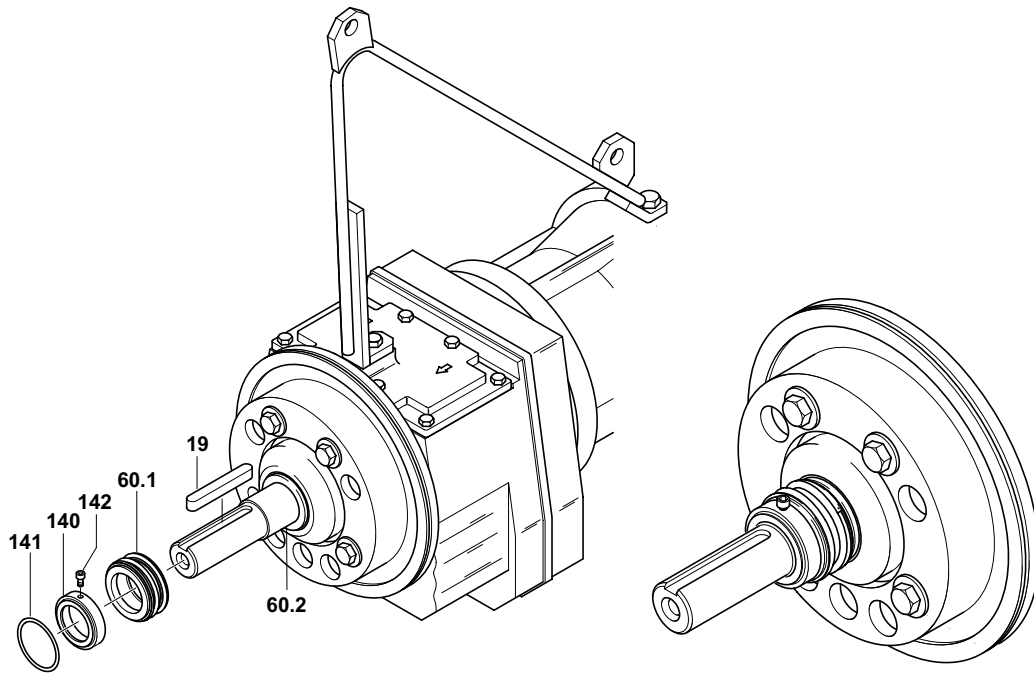

Figure 14 Assembling of the mechanical seal SB, XSB 900, XSB 2500
**ATTENTION**      **Ensure the correct positioning of the fixing ring (see detailed illustration Figure 14/141, 15/392). The groove for the seal has to show into the direction of the shaft end.**